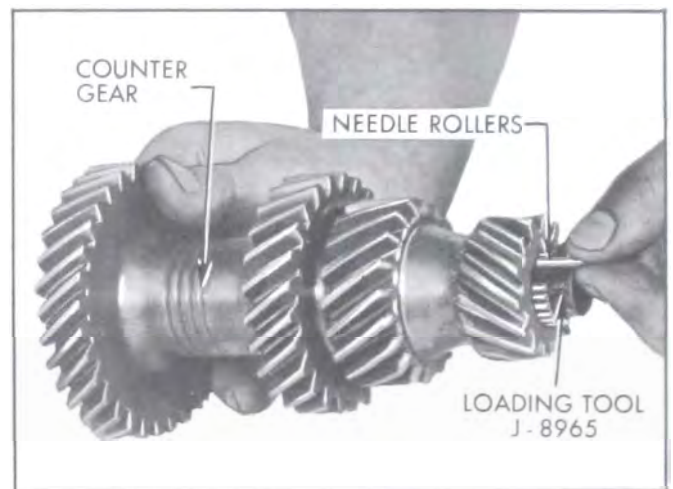

Figure 4-22—Loading Needle Rollers
3. Hold counter gear in vertical position and while supporting bearing loading tool from below, insert inner bearing spacer (washer) and place 22 needle rollers in position around loading tool using heavy grease to hold them in place. Insert outer bearing spacer. Repeat this procedure on opposite end. See Figure 4-22.